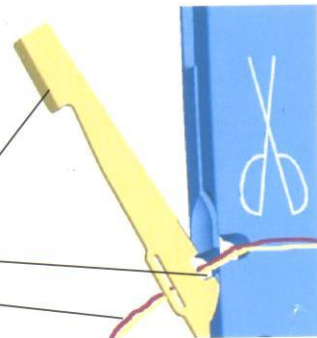

Fig.4
- 6.When cutting cable, loosen off scissors movable sheet, put the cable line at the place of scissors cut, press the handle. See fig.4;